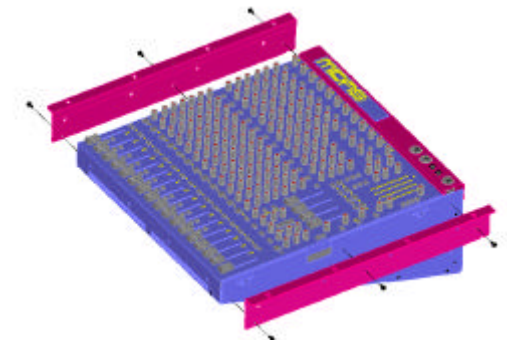

fig. 7
9. Finally the rack brackets are fastened with the screws contained in the mounting set (fig. 7) by using the Phillips screwdriver type Ph2.